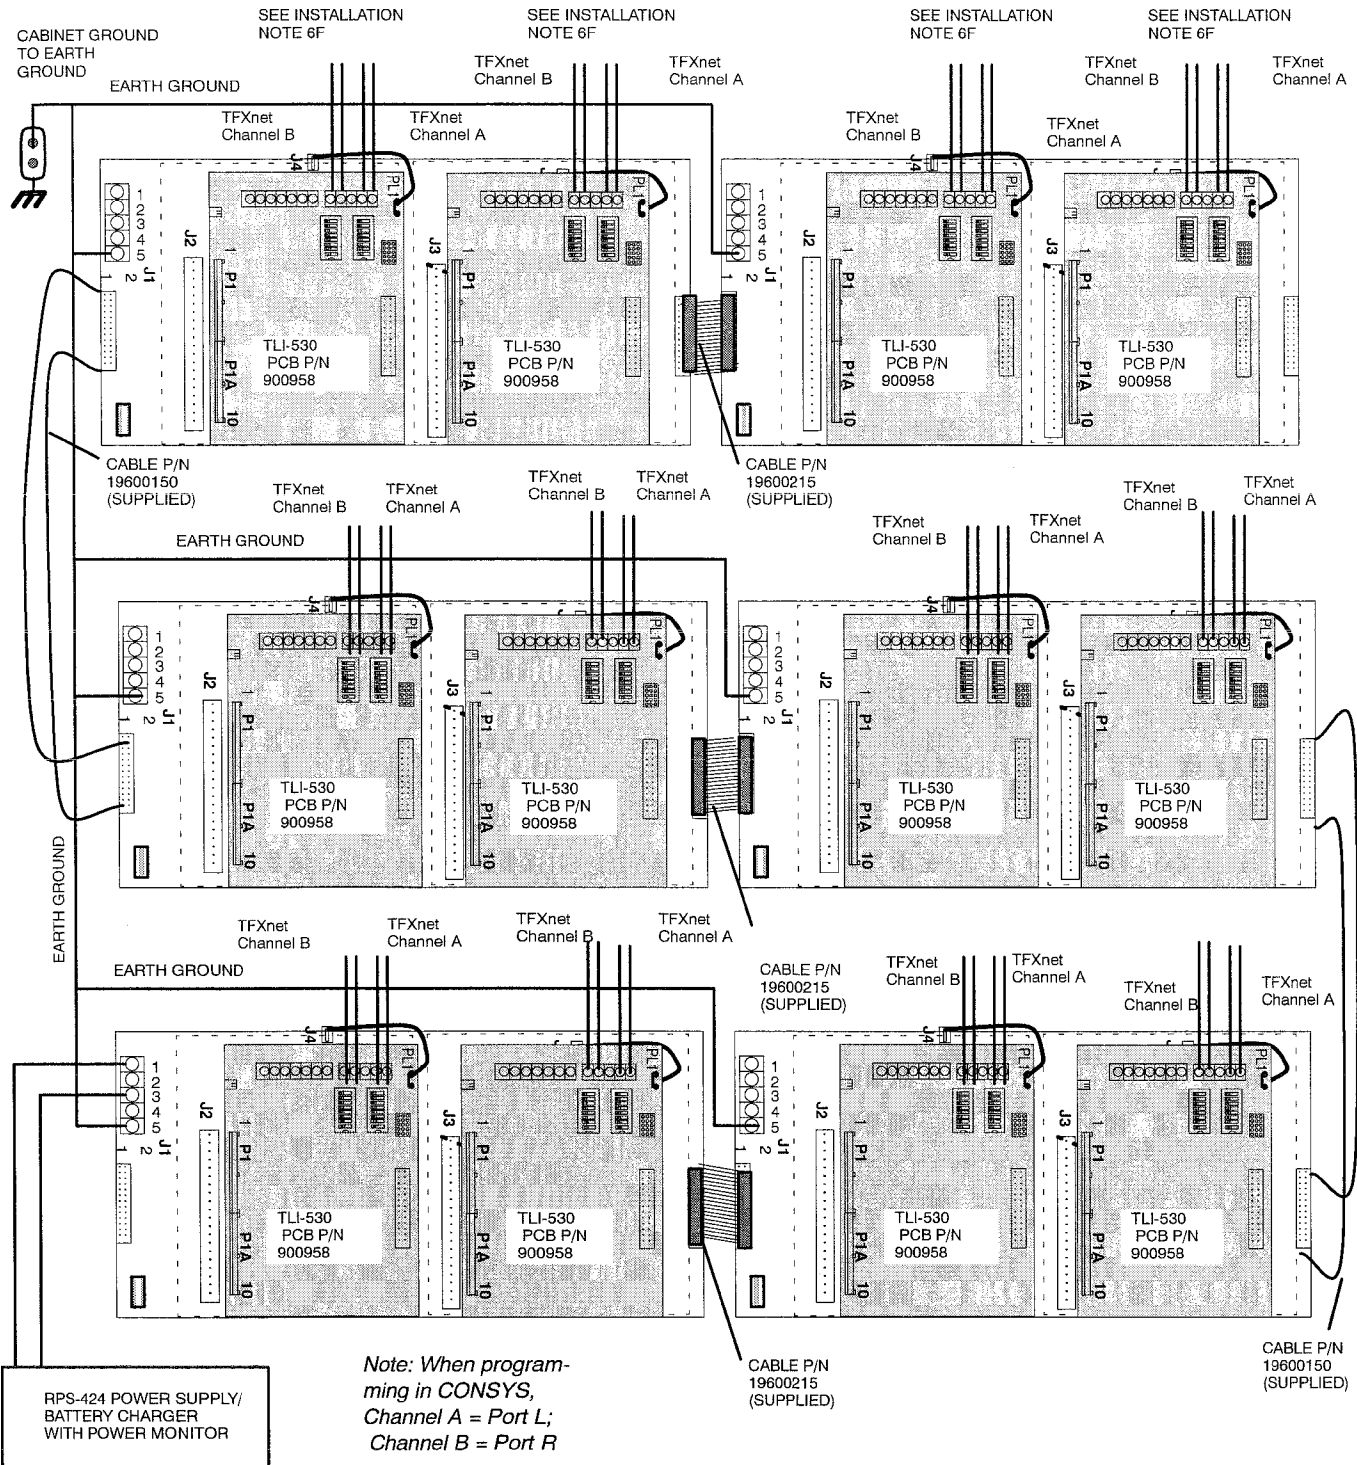

Figure 5. Two TLB-530 boards, each with two TLI-530 boards, in Hub Configuration.
- **Hub**—The hub is the center configuration in either a star or a redundant star network topology. A hub consists of a "daisy chained" series of TLB-530 boards (see Figure 5) each with two TLI-530 modules. The TLI-530 modules interface the device on their associated star "arm" (or "spoke") to devices on another arm via the hub. (The TLB-530 boards provide the hub communication path. The maximum baud rate for a star or redundant star network is 19.2 k-baud.)
6. **Hub Network Configuration (See Figure 5):**